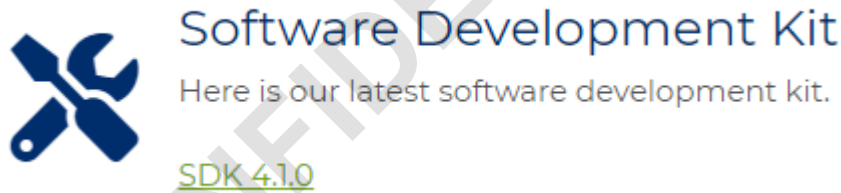

Figure 5 - Customer Support Portal
- Figure 5 - Customer Support Portal
The Windows 10 Installer is also available in the Customer Support Portal. See Figure 5.